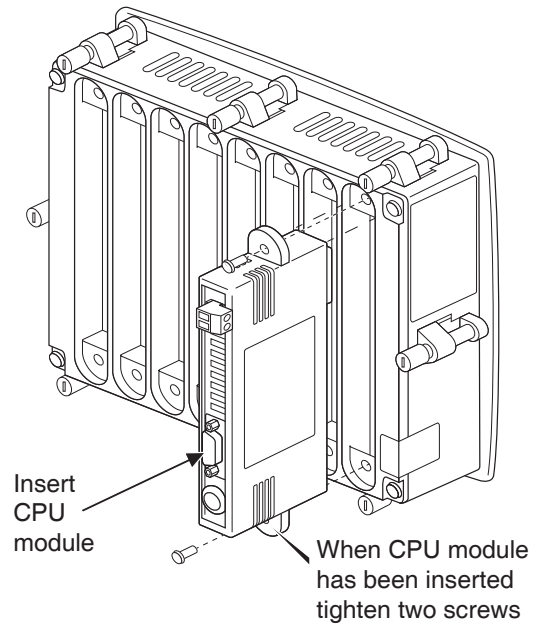

Fig 2 Inserting BA3200 series module into the 'C' socket
The BA3200 series plug-in CPU module should be fitted into the 'C' socket of a BA3101 Pageant Operator Display as shown in Fig 2.
2. Carefully insert the CPU module into the 'C' socket at the rear of the Pageant BA3200 series Operator Display as shown in Fig 2. When correctly positioned secure the assembly by tightening the two module fixing screws.